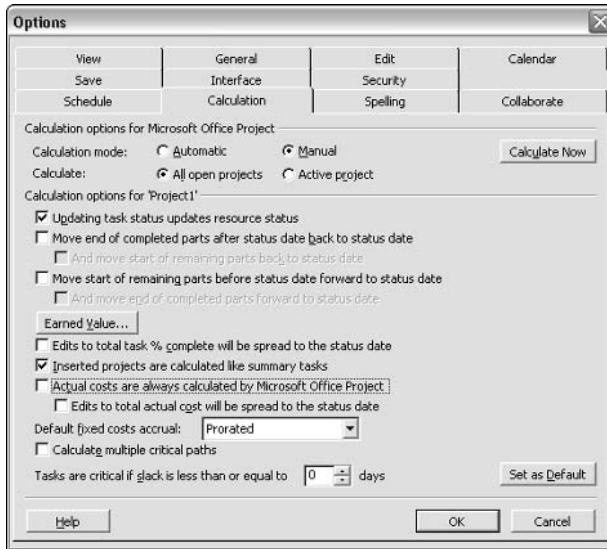

Figure 12-10: Revise the default settings to override Project's calculated costs.
3. Deselect the Actual costs are always calculated by Microsoft Office Project check box, as shown in Figure 12-10.